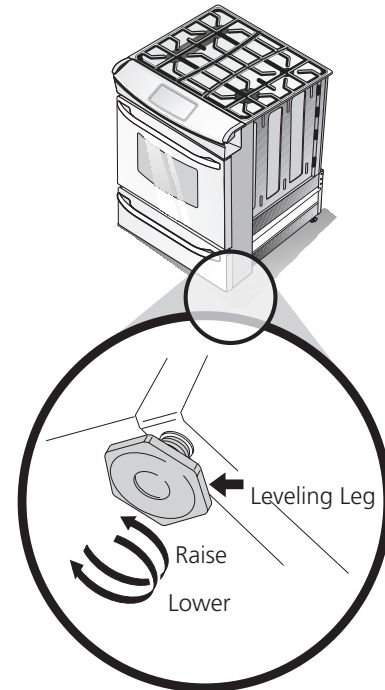

Figure 13
4. Level range if necessary, by adjusting 4 leg levelers with wrench. (See Figure 13 below.) A minimum clearance of 1/8" (0.8 cm) is required between the bottom of the range and the rear leg levelers to allow room for the anti-tip brackets.